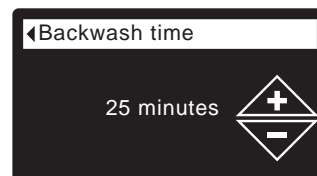

FIG. 76*
7. Press the SELECT (O) button to display the desired cycle time screen (See Figures 76* & 77*).
- 8a. **Backwash time:** Press the UP (▲) or DOWN (▼) buttons to change the backwash time. Hold the button down to rapidly advance. The backwash time can be set from 1 to 99 minutes* (See Figure 76*).